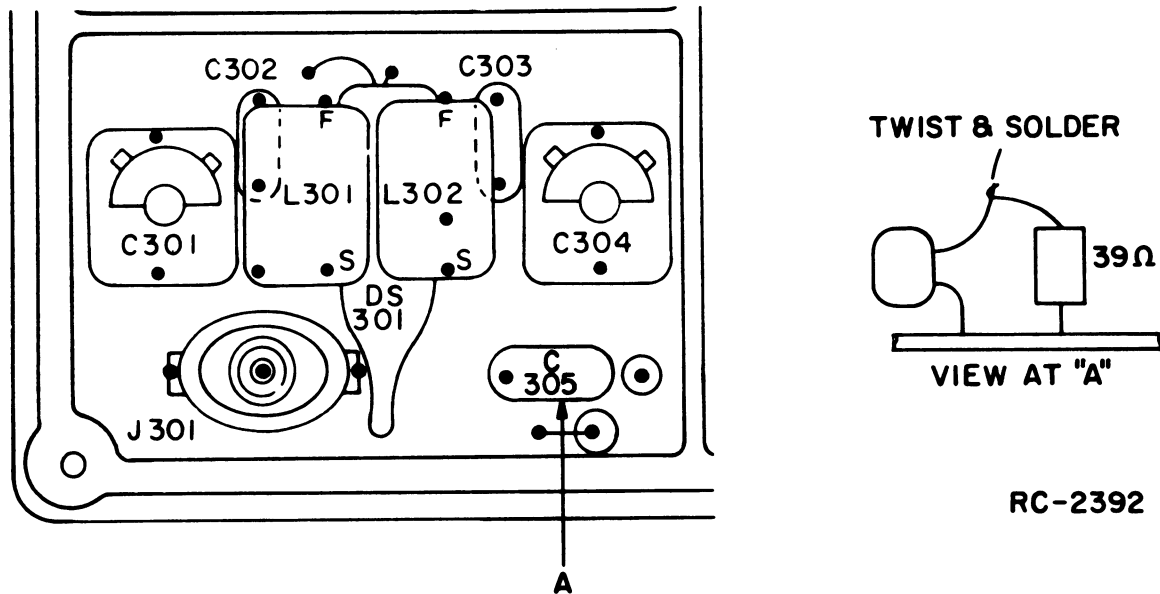

Figure 1 - Installation Diagram
2. Unsolder the lead of capacitor C305 (see Figure 1) and solder one lead of a 39-ohm, 5%, 1/4-watt resistor (GE Part No. 3R152P390J) into the hole from which the capacitor lead was removed.